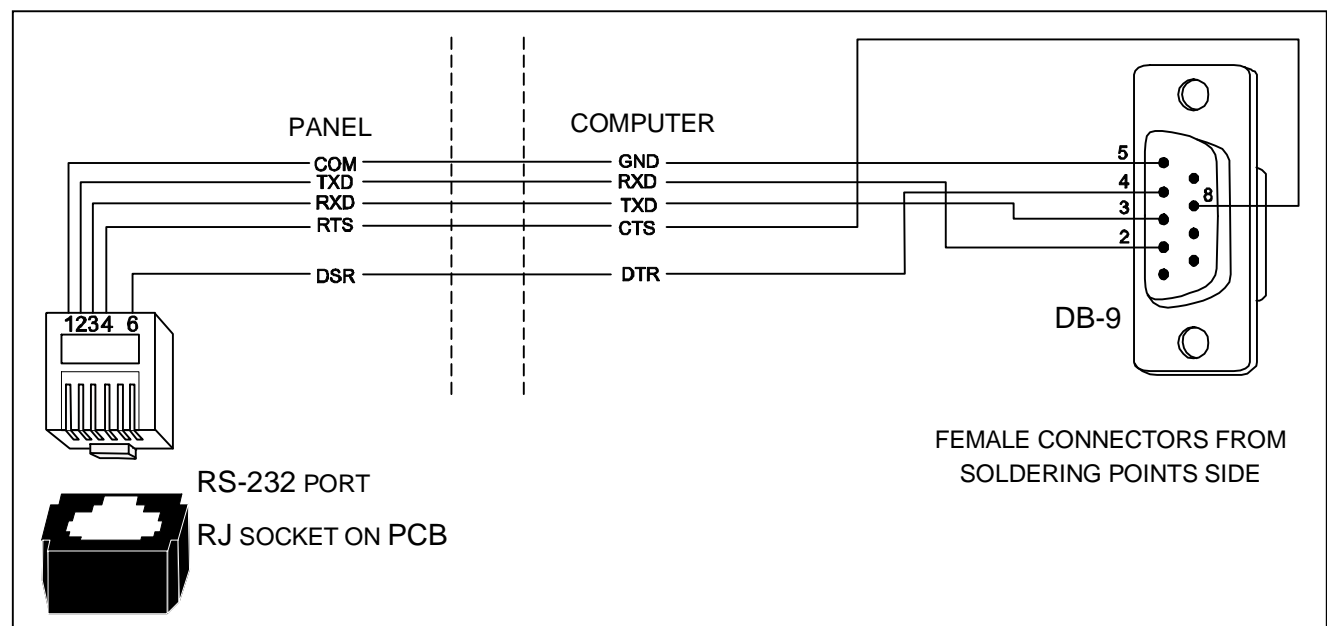

Fig. 17. Connection of computer to the control panel RS-232 port.
2. Connect the cable to RS-232 ports in control panel and computer (Fig. 17).